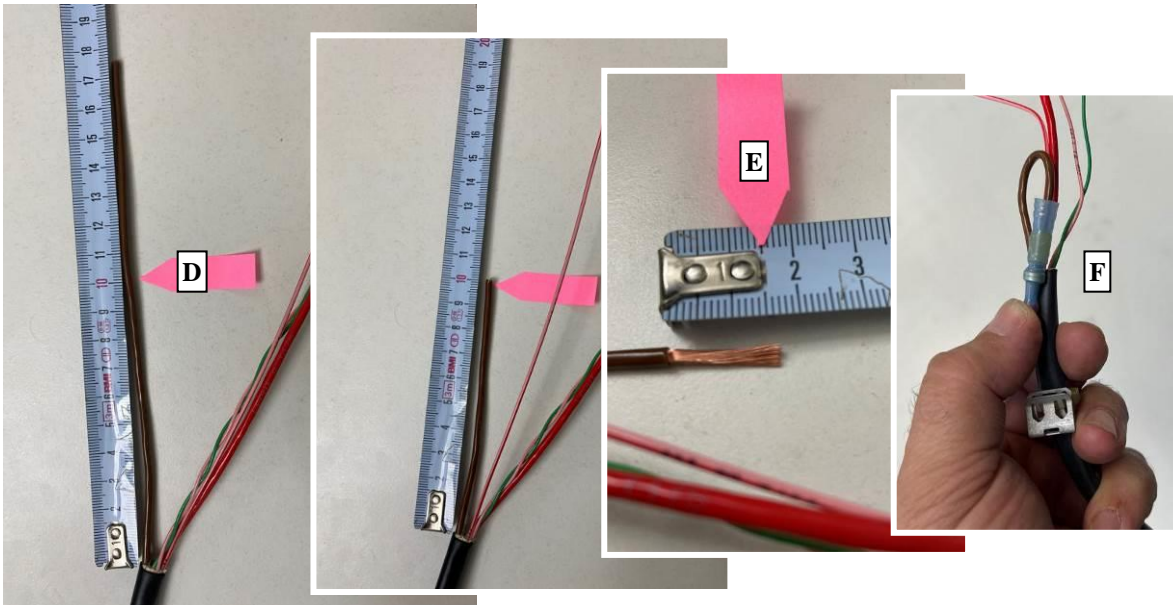

Figure 7
7. Shorten the brown cable of the repair wiring harness to a length of **100 mm** measured from the fabric protective hose (**Figure 7, D**). Insert the soldering end sleeve halfway into the fabric protective hose (**Figure 7, F**).
**i** Strip the end of the brown cable **15 mm** (**Figure 7, E**) and slide it into the soldering end sleeve (**Figure 7, F**).